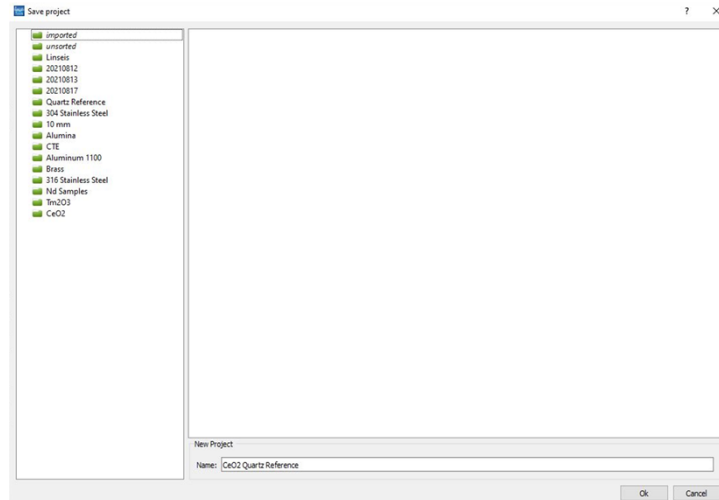

Figure 39. Select folder and name project.
- Select the folder to be used to save the project, next type the name of the project, and click OK, see Figure 39.